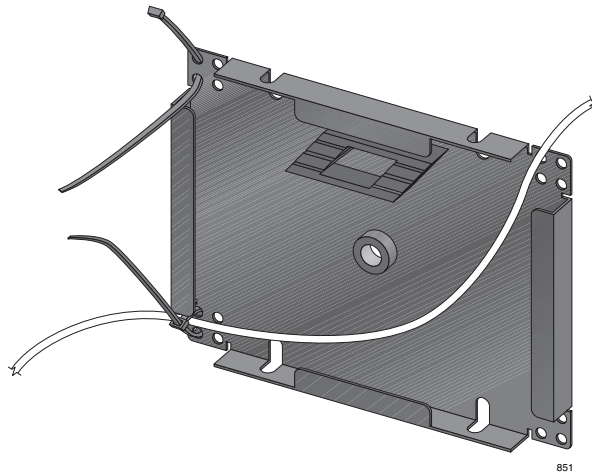

Figure 21. Securing the Buffer Tube
4. Route the buffer tube from the drop cable to the lower left corner of the splice tray and secure the tube to the splice tray with the wire tie, as shown in Figure 21.